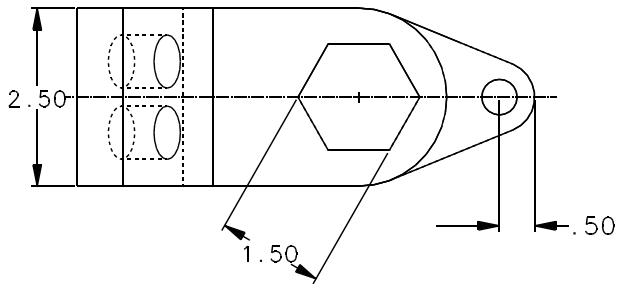

Figure 30
- Figure 30 shows the location of the 1.50 dimension.